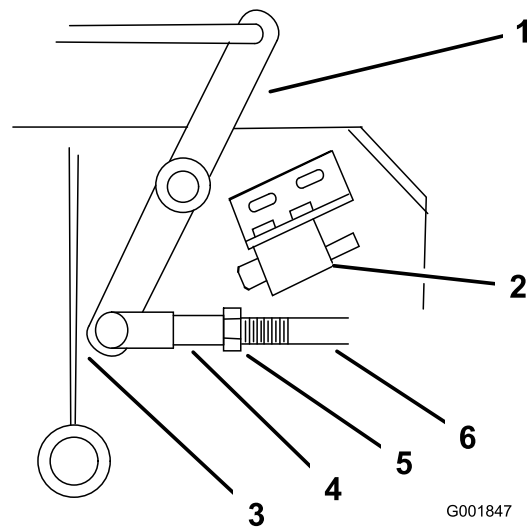

Figure 57
4. Adjust the linkage length to where the lower end of the bellcrank just clears the axle support gusset (Figure 57).
9. Loosen the nut against the yoke (Figure 57).